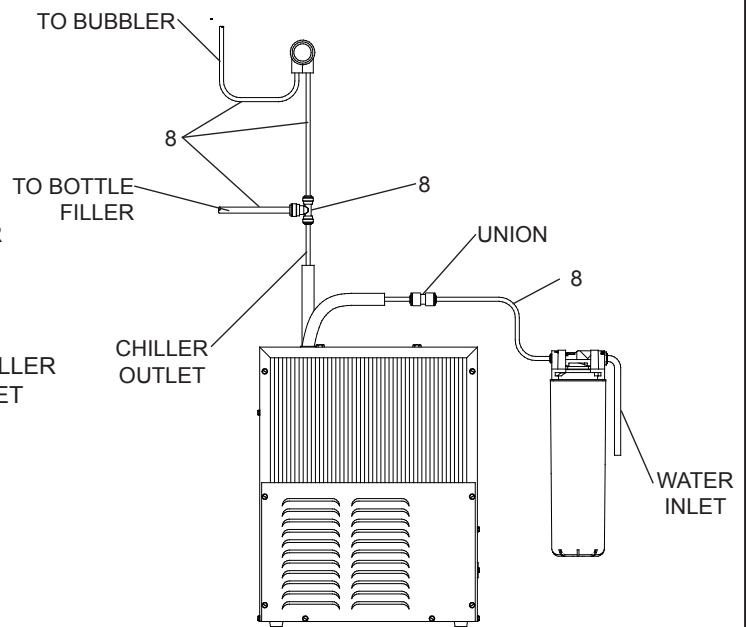

**Figure 4 – LZWS-ERP8-RF Filter Mounting
4. (For LZWS-ERP8-RF) If an existing filter is not present install filter bracket on chiller (Fig 4), then install the filter head the bracket, plumb from the filter outlet to the chiller inlet with ¼ poly tubing and ¼ x ¼ union, install filter .